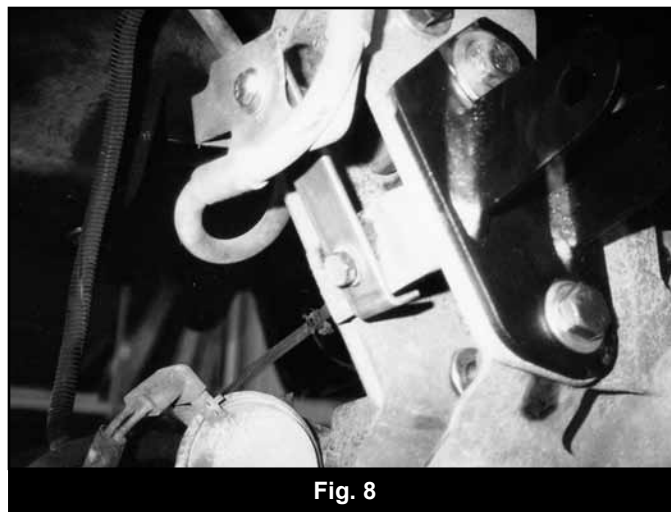

Fig. 8
29. Install the supplied brake line relocation brackets at this time. The brackets are the two with a small 90 degree bend. Install the bracket with the small leg at the bottom facing toward the front of the vehicle. Install original metric bolt in the bottom hole on the bracket and tighten. Attach the original brake line anchor bracket to the top hole of the new bracket with the supplied 1/4 x 1" bolt, nut, and washer supplied and tighten. (Fig. 8)